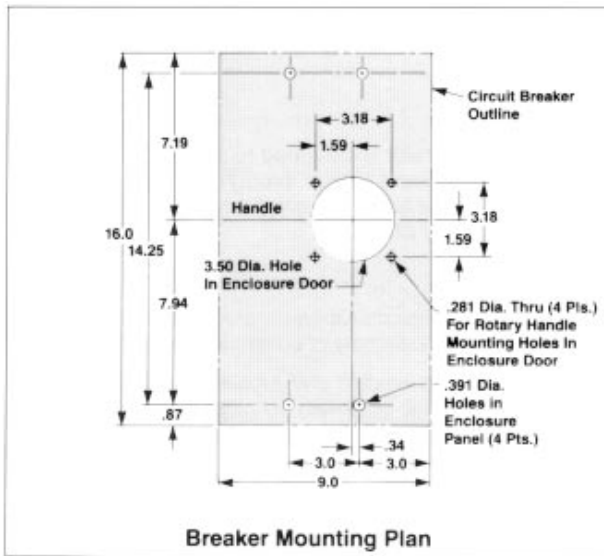
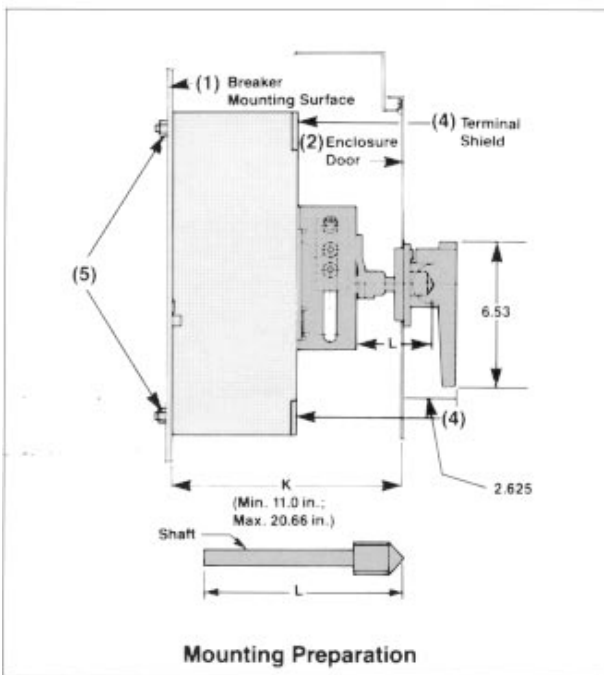

Figure 1
Figure 2
- Catalog number RHONSD standard depth shafts are for use in 11 in. deep enclosures. Refer to minimum K dimension in Figure 2. Catalog number RHONVD variable depth shafts are used for all other enclosure depths up to 20.66 in. deep. Shafts are cut to length L as shown in Figure 2.
- Place circuit breaker mounting holes (Figure 1) in breaker mounting surface (1) and handle mounting holes in enclosure door (2) (Figure 2).